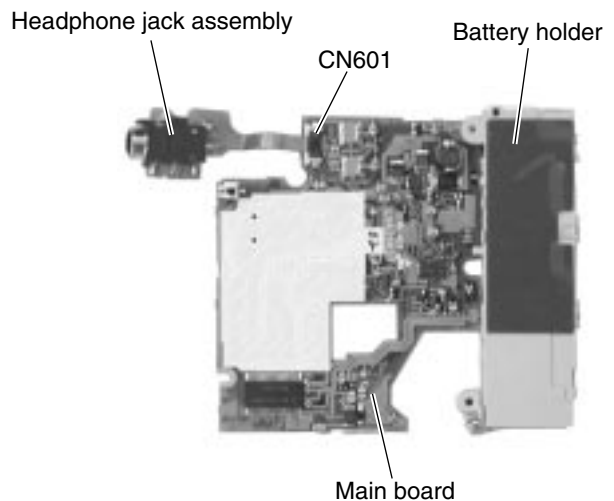

Fig.10
■ Removing the headphone jack assembly (See Fig.10)